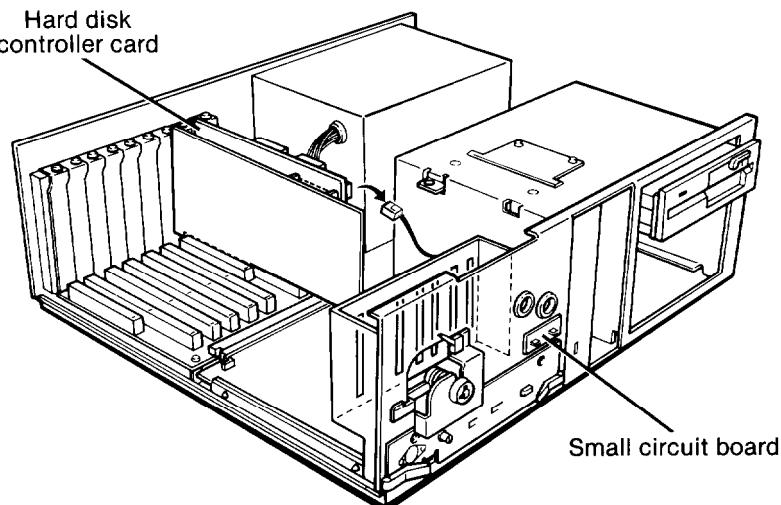

Figure A-6. Unplugging connector CN6 from hard disk *controller card*
3. The small circuit board (on the front of the computer), which contains the power and hard disk LEDs, is connected to the hard disk controller card by a black and red twisted cable. Unplug the connector from the hard disk controller card—the connector is labeled CN6 on the card—as shown in Figure A-6, and lay the cable to one side.